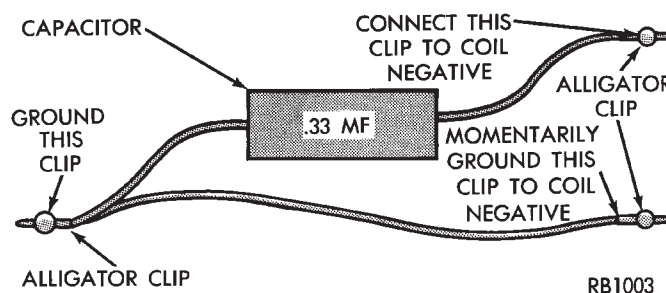

Fig. 9 Special Jumper Ground-to-Coil Negative Terminal
(6) Remove test lead from the coil positive terminal. Connect an 18 gauge jumper wire between the battery positive terminal and the coil positive terminal.
(7) Make the special jumper shown in (Fig. 9). Using the jumper, **momentarily** ground the ignition coil driver circuit at the PCM connector (cavity A-7). For cavity/terminal location of this circuit, refer to Group 8W, Wiring. A spark should be generated at the coil cable when the ground is removed.